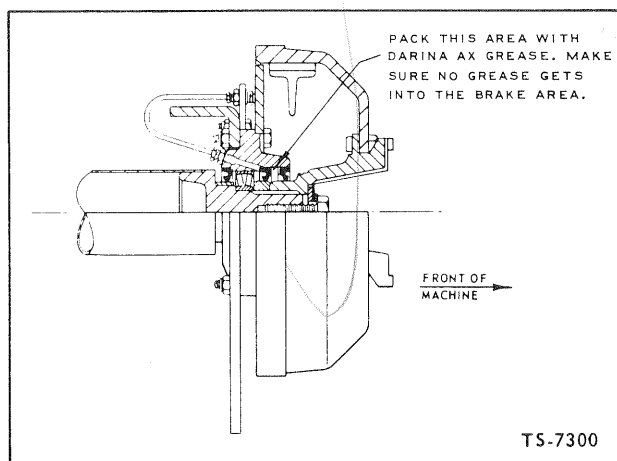

Fig. 23
6. Pack the area behind the above removed seal with Darina AX grease. See Fig. 23, which illustrates the area to be greased. **MAKE SURE** that no grease gets into ~~the~~ the brake area after the seal has been re-assembled.